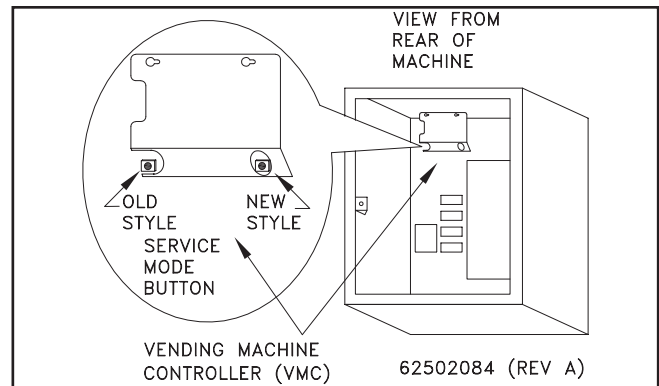

FIGURE 5
2. Press the round yellow push button on the VMC (See figure 5). An audible "beep" signals the service mode has been accessed. Either the System Errors Menu (If system errors are present) or the Main Menu (if no errors are present) will be displayed.